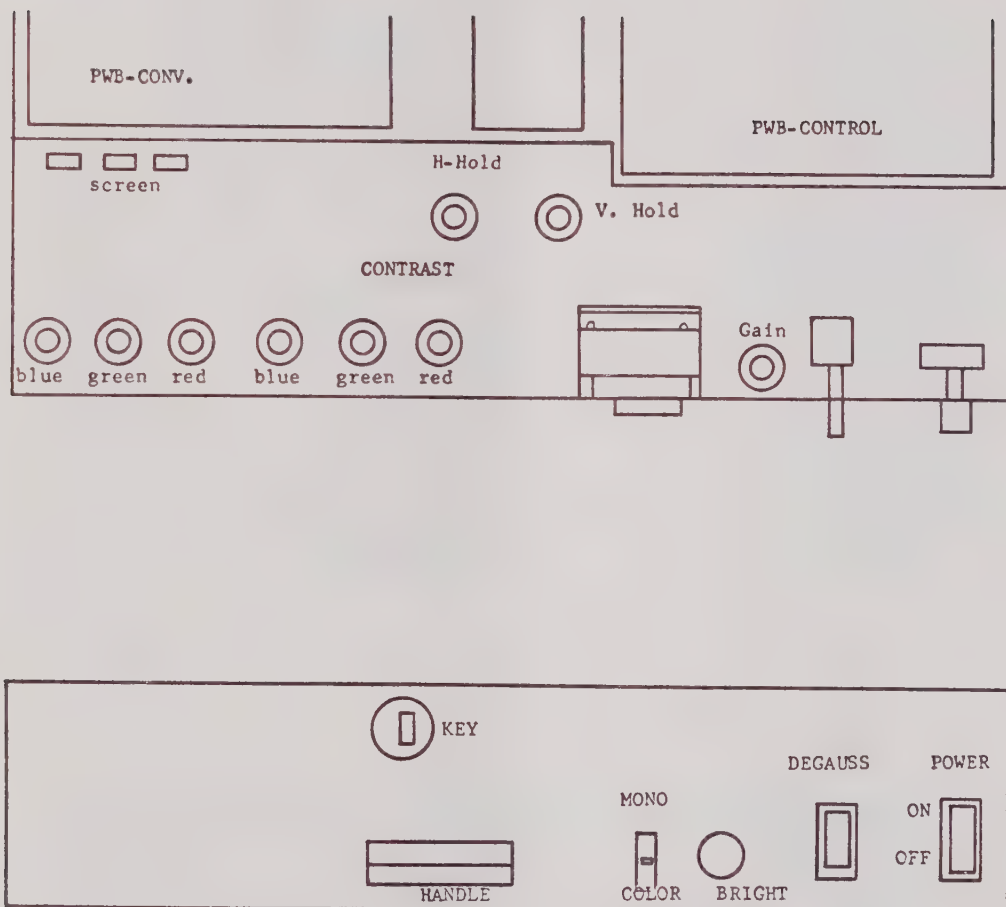

FIGURE 2-2. Front and Rear Panels
A. Figure 2-2	Front and Rear Panels